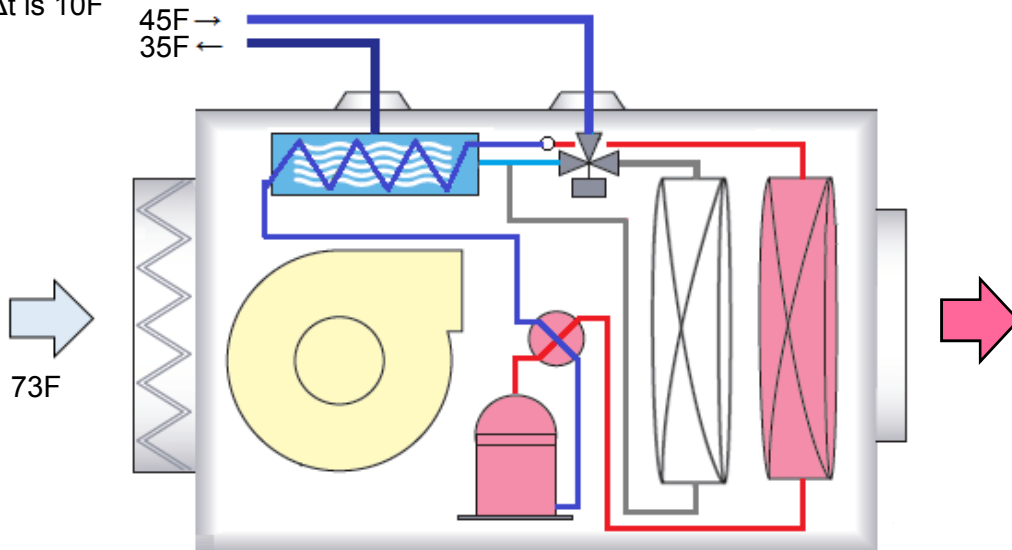

Fig.3 Reverse mode operation(Heating)
- As shown in Figure 3, the fan blowers through the direct expansion coil to cool it.